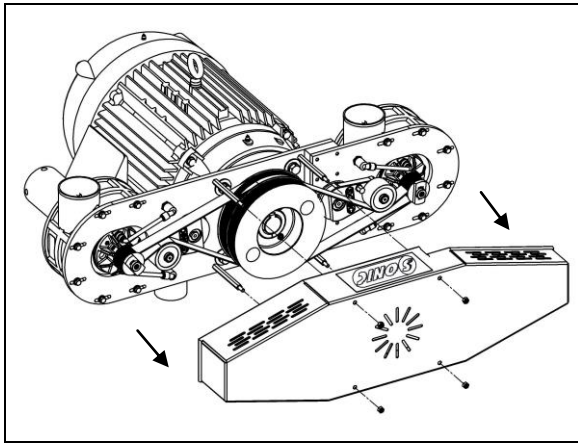

Figure 31 - Remove Belt Guard
1. Remove the belt guard using the 1/2 inch socket. (See Figure 31)